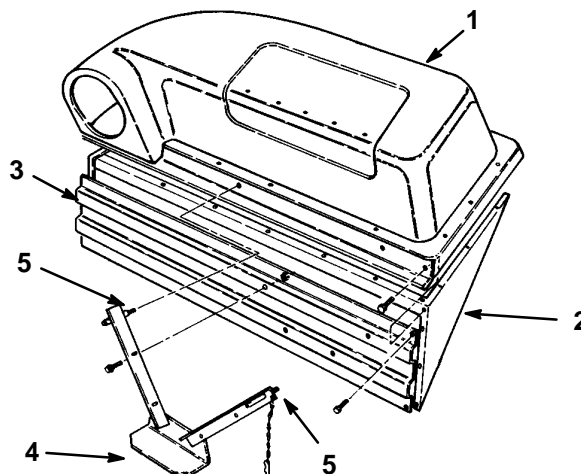

Figure 2
1. Install the muffler shield and the side plates to the bag cover using (12) 1/4"-20 x 5/8" bolts and locknuts (Fig. 2). Also, when installing the side plates, place a 1/4" washer between the bolts and the plastic bag cover.
2. Install the V-bracket studs into the holes in the bag cover and secure with (2) 3/8" washers and 3/8"-16 locknuts (Fig. 2).
3. Secure the V-bracket further with (4) 5/16"-18 x 5/8" bolts and locknuts (Fig. 2).